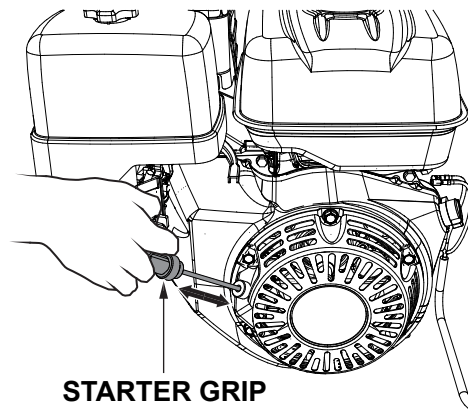

Figure 20. Starter Grip
1. Grasp the starter grip (Figure 20) and slowly pull it out. The resistance becomes the hardest at a certain position, corresponding the compression point. Rewind the rope a little from that point and pull out sharply.